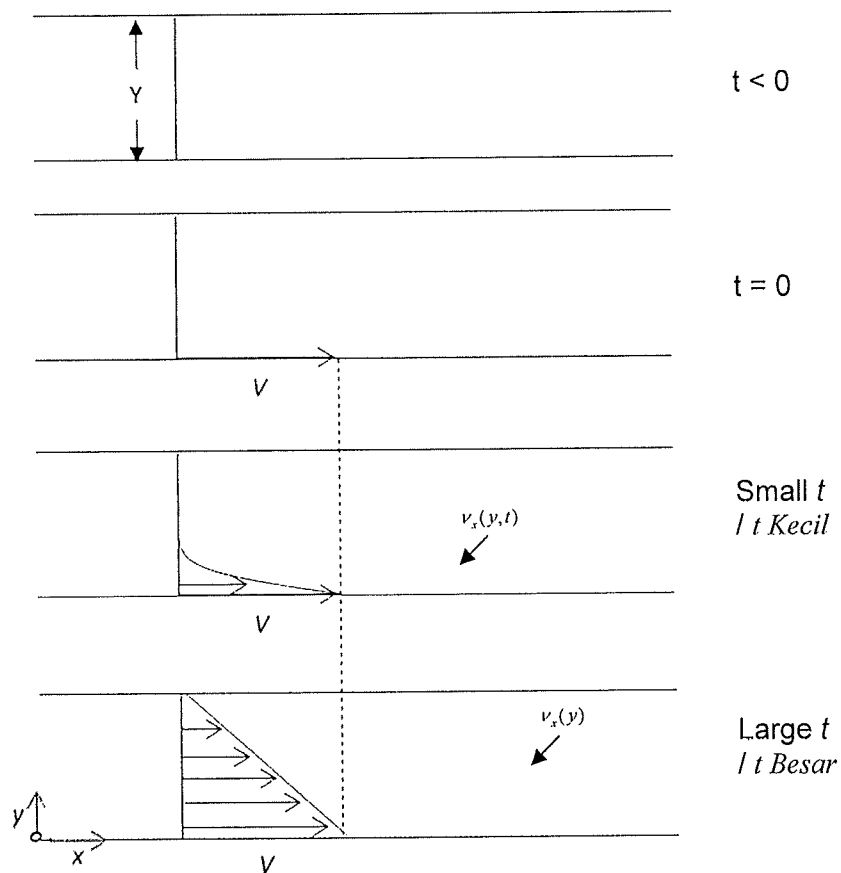

Figure 3 - The velocity profile for a fluid contained between two plates
3. [a] Briefly explain the momentum flux, τ_{yx} . Compute the steady-state momentum flux τ_{yx} in Pascal when the lower plate velocity V in Figure 3 is 0.30 m/s in the positive x direction, the plate separation Y is 0.03 cm, and the fluid viscosity μ is 7×10^{-4} Pa.s.